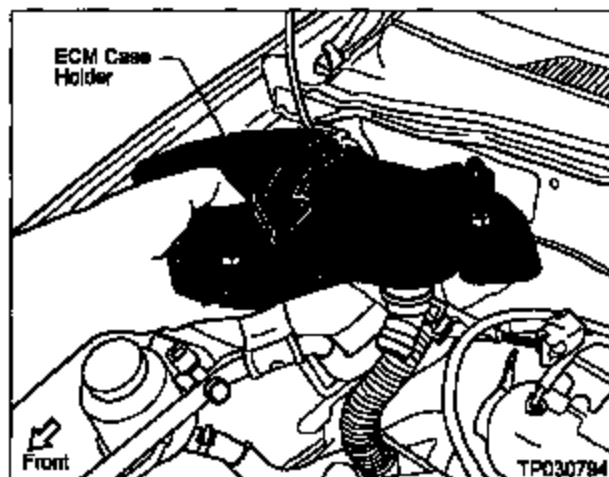

Figure 7
7. Carefully pull the ECM Case Holder out of the engine room wall and set it on top of the passenger side Strut Tower (see Figure 7).